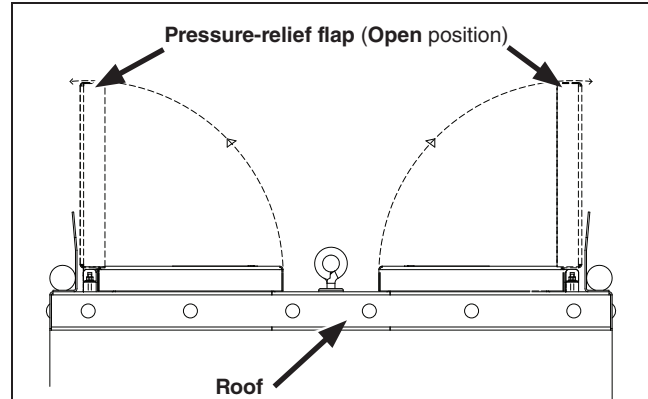
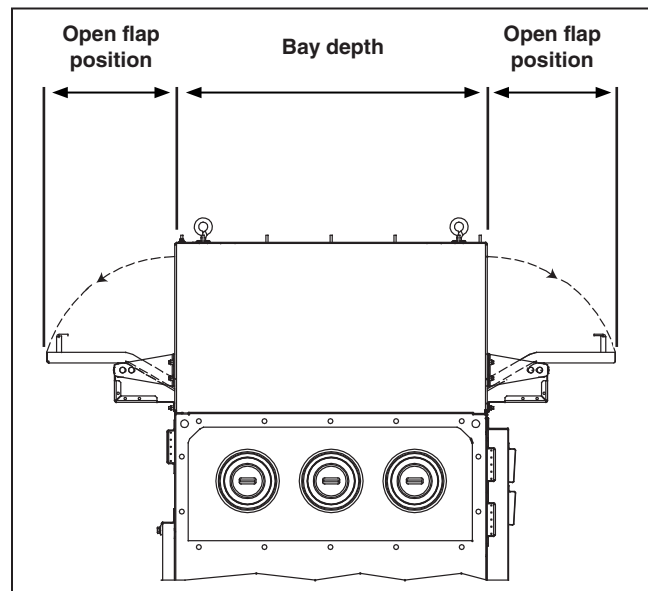

Figure 15. Top-flap style pressure-relief flaps are shown.
Figure 16. Side-flap style pressure-relief flaps are shown.
STEP 21. Refer to the CDA drawing to view the clearance required for free movement of the pressure-relief flaps. The pressure-relief flaps must be free to move through a 90-degree arc. Refer to Figure 15 for the top-flap style and to Figure 16 for the side-flap style.